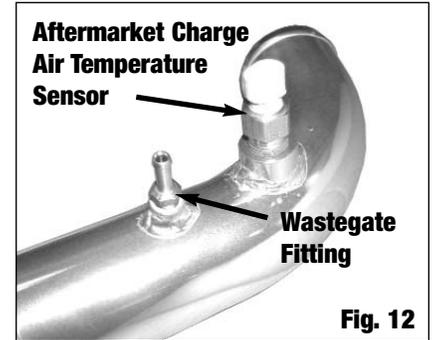

Fig. 12
6. Install the Blow-Off Valve onto the intake manifold inlet pipe. Make sure the O-Ring is properly seated on the Blow-Off Valve flange. Install the Blow-Off Valve and V-Band and tighten the V-Band. Install the supplied banjo fitting onto the Blow-Off Valve using the supplied sealing washers. Install a 1/4" barb to 1/8" NPT fitting (for wastegate actuator hose) into the hole near the throttle body end of the intake manifold inlet pipe (**See Fig. 12**). Install the 3/8-18 NPT pipe plug (Supplied) into the threaded fitting next to the wastegate fitting on the intake manifold inlet pipe. Some aftermarket fuel management systems may require installing a CAT (Charge Air Temp) sensor. This location may also be used for this purpose if the sensor uses 3/8-18 NPT threads (**See Fig. 12**). Use thread sealant on any fittings, sensors, or pipe plugs.